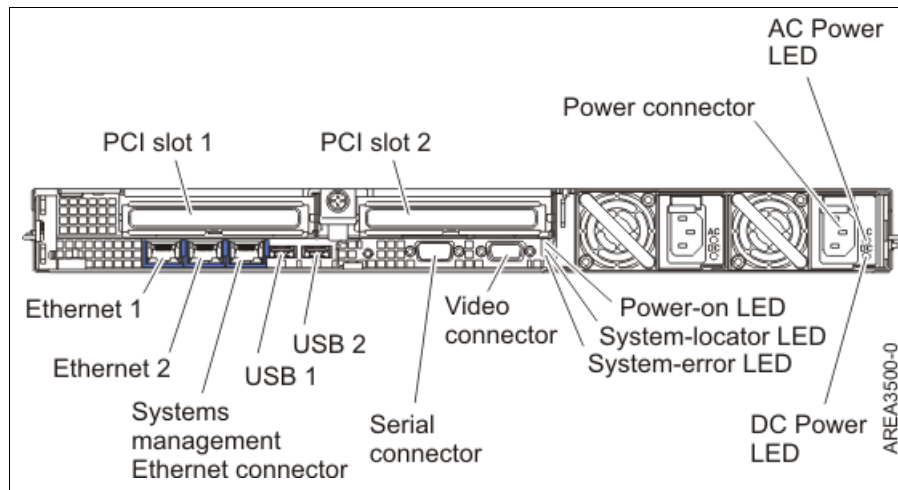

Figure 3-1 Back view of a rack-mounted HMC 7310-CR4
- A rack-mounted HMC 7310-CR4 (Figure 3-1)